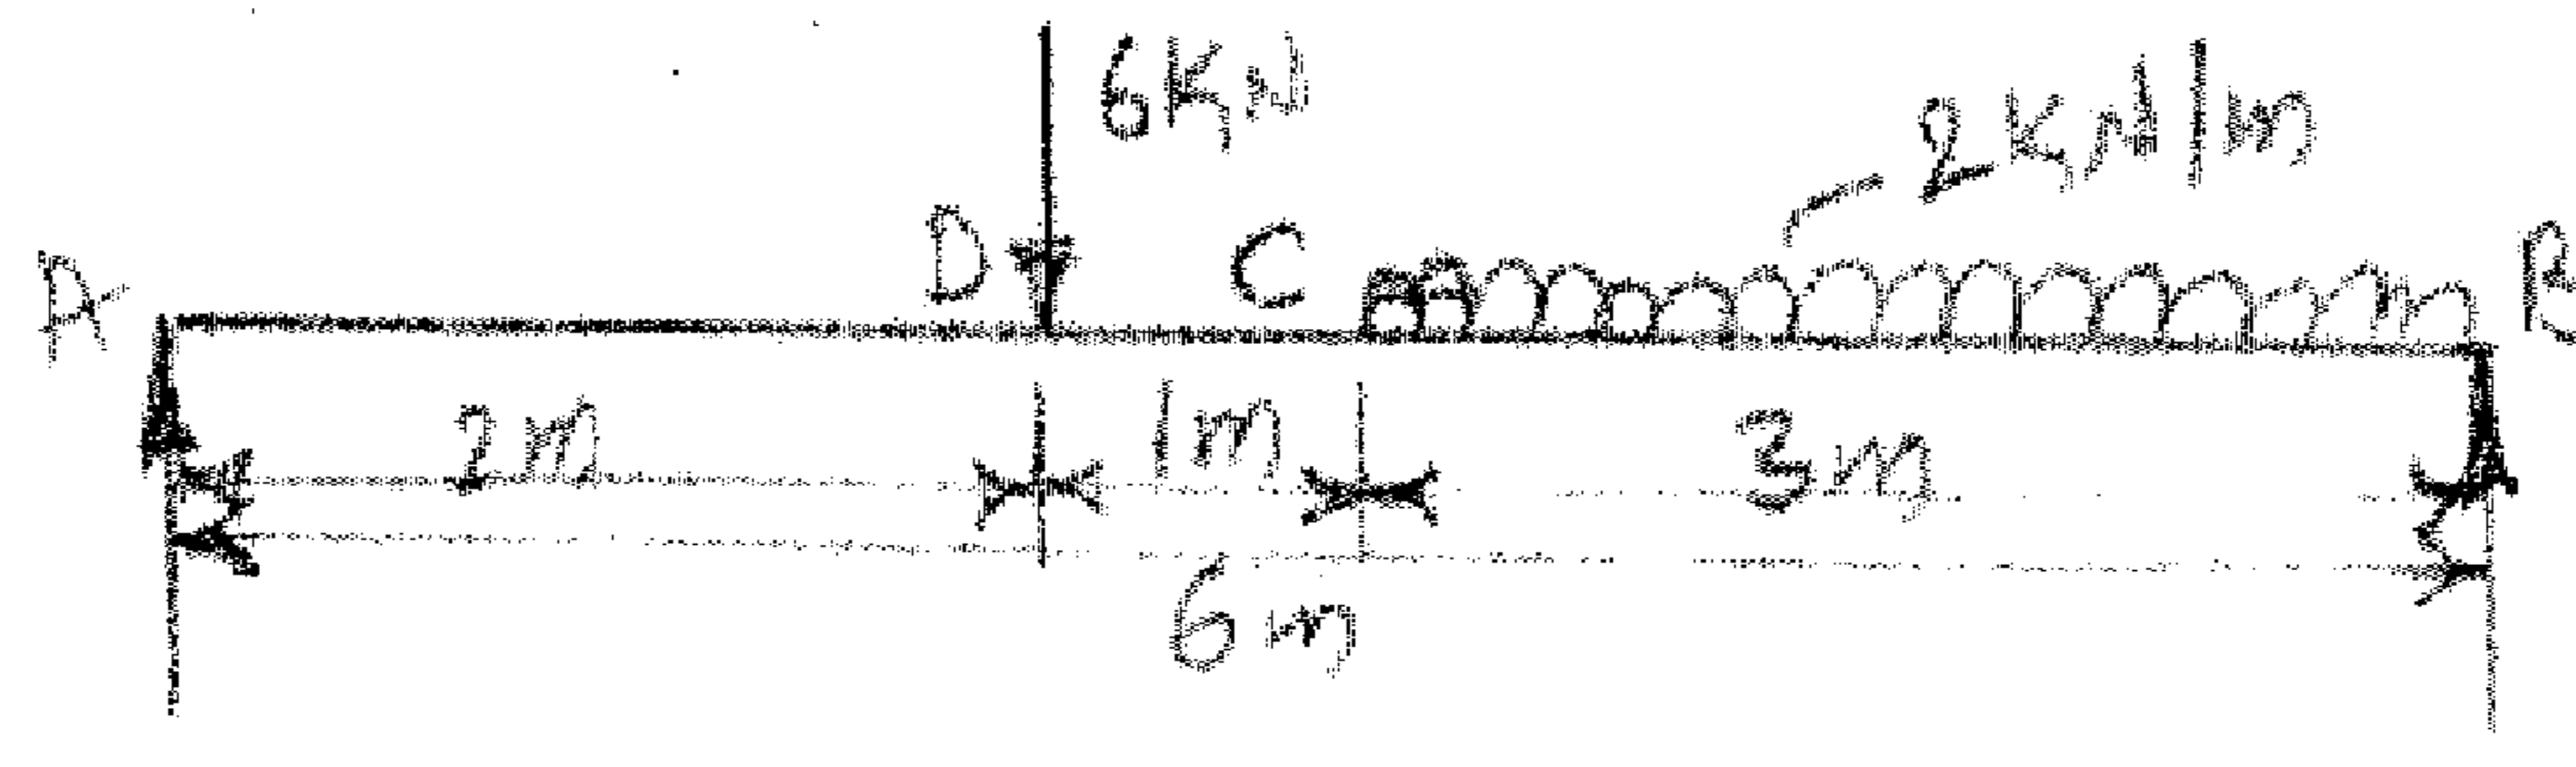

Fig. Q7 (b)
b. A beam AB of span 6 m is simply supported at the ends and is loaded as shown in figure Q7 (b). Determine i) deflection at C ii) maximum deflection and iii) slope at the end A. Take $E = 2 \times 10^5 \text{ N/mm}^2$, $I = 2 \times 10^7 \text{ mm}^4$. (15 Marks)